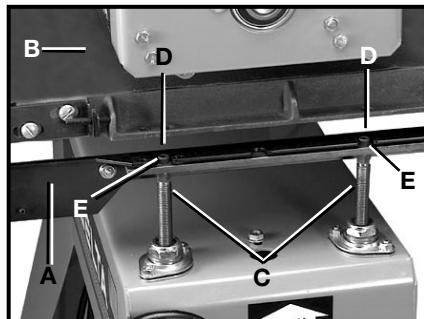

Fig. 7A
- Lift sanding table (B) Fig. 7A, and position support bracket (A) between sanding table (B) and table mounts (C). Pull it to the outside as far as it will go. **IMPORTANT: Slots (D) Figs. 7A and 7B should fit around the top of the screws (E) Fig. 7A.** Reinstall the two screws and lockwashers loosely, (if your tool has flat washers here, discard them) then repeat the installation for the other side. Once the support brackets are in place, and all screws are attached, tighten all four screws.